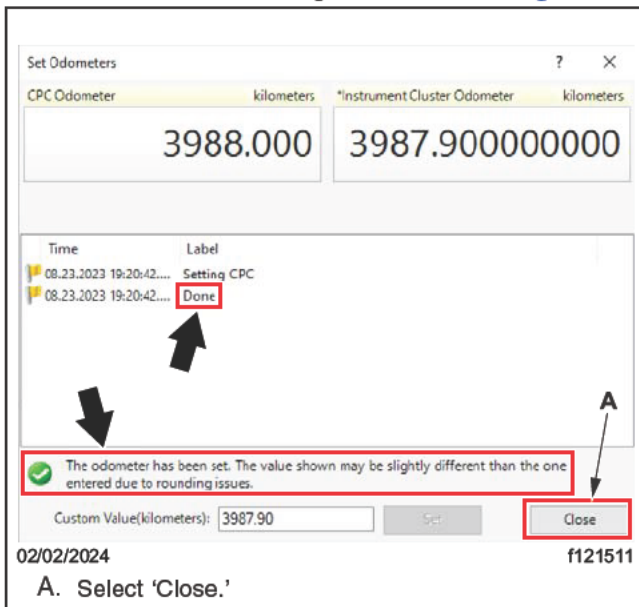

Fig. 41, Odometer Synchronization Completed
19.10 Once the odometer synchronization is complete, the label indicates 'Done,' and a message is displayed: 'The odometer has been set up.' Select the 'Close' button. See Fig. 41.